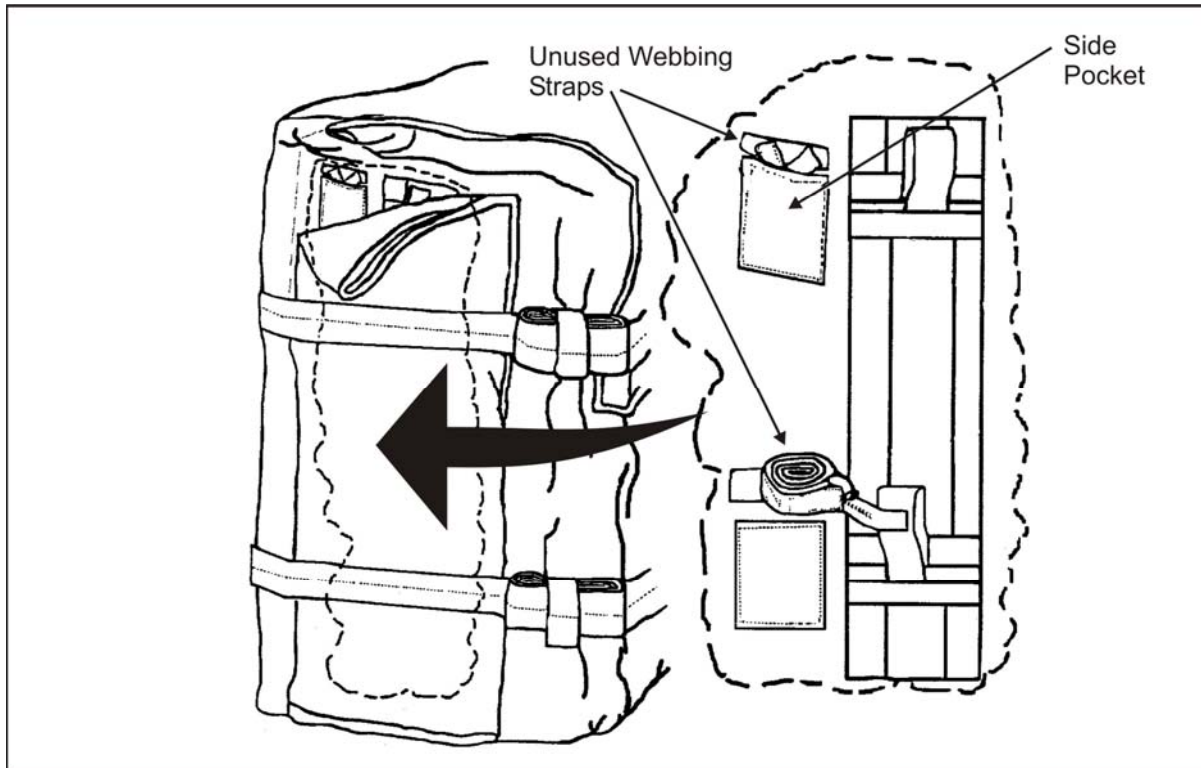

Figure 5-15. Stowage Pockets
- Stows the unused webbing straps into the small side pockets on either side of the SARPELS cargo carrier (Figure 5-15, page 5-18).